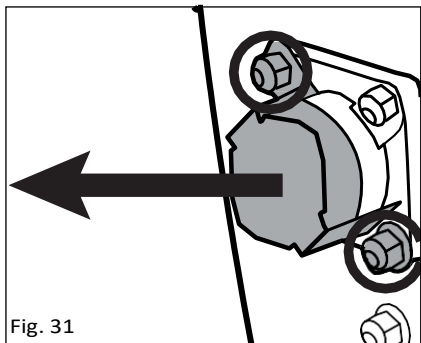

Fig. 31
2. Remove the hopper (4)
3. To allow access to the blade shaft remove the two nuts from the blade shaft cover (14) (fig. 31).